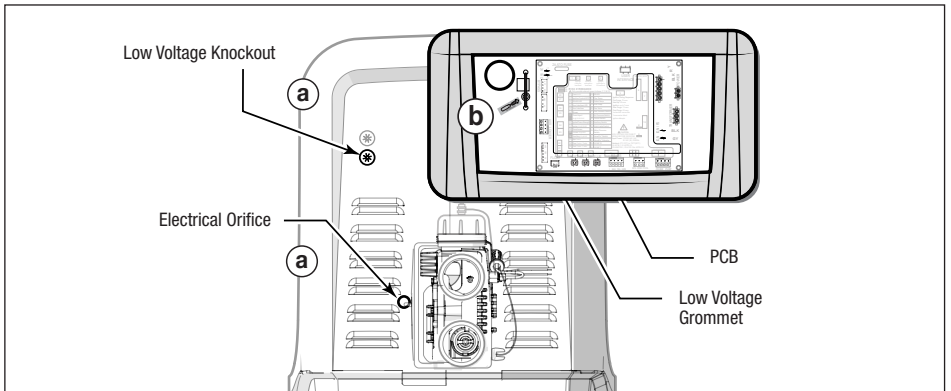

Figure 14. JXiQ Bypass Harness Routing
6. Pass the harness through the grommet at the low voltage raceway, see Figure 14 (b).
1. Carefully pass the harness through the low voltage grommet on the raceway, see *Figure 14 (b)*.